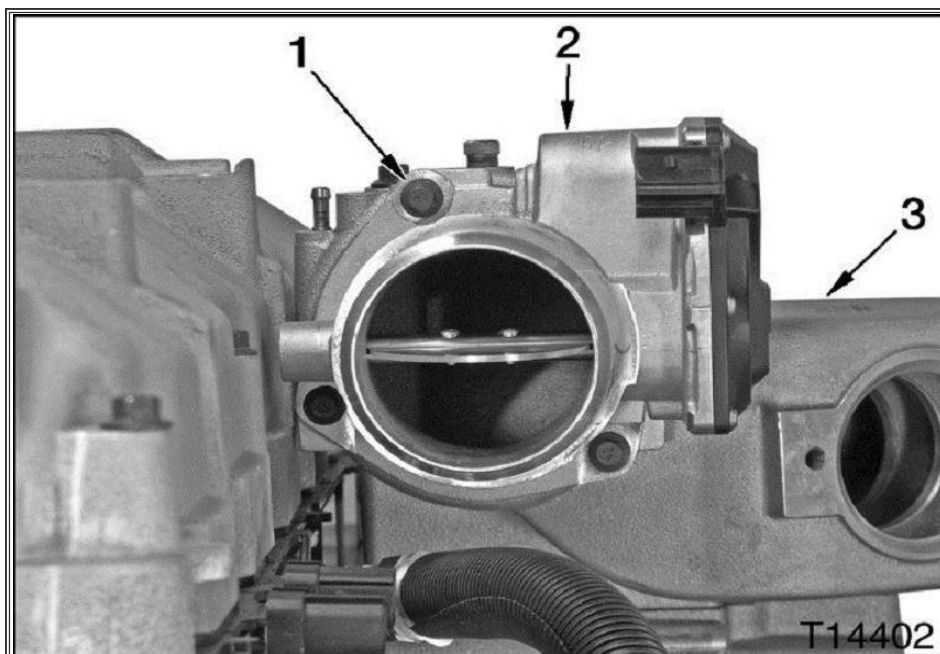

Figure 4: Engine Throttle Valve (ETV) Assembly
1. M6 X 25 bolt (3)
23. Remove three bolts (Figure 4, Item 1) securing ETV assembly (Figure 4, Item 2) to air and EGR mixer duct assembly (Figure 4, Item 3).